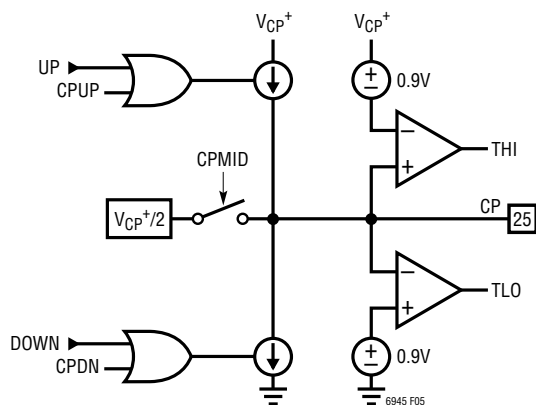

Figure 5. Simplified Charge Pump Schematic
The charge pump, controlled by the PFD, forces sink (DOWN) or source (UP) current pulses onto the CP pin, which should be connected to an appropriate loop filter. See Figure 5 for a simplified schematic of the charge pump.
The CPCHI and CPCLO bits found in register h0A enable the high and low voltage clamps, respectively. When CPCHI is enabled and the CP pin voltage exceeds approximately  $V_{CP+} - 0.9V$ , the THI status flag is set, and the charge pump sourcing current is disabled. Alternately, when CPCLO is enabled and the CP pin voltage is less than approximately 0.9V, the TLO status flag is set, and the charge pump sinking current is disabled. See Figure 5 for a simplified schematic.